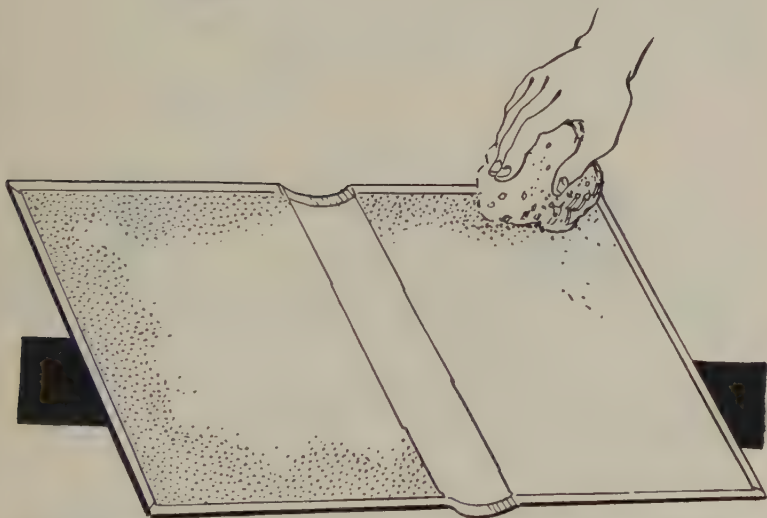

Fig. 212—DAMPENING END-LINING PAPERS ON COVER REMOVED FROM BOOK, PREPARATORY TO SCRAPING OLD PAPERS FROM COVERS
2. With a damp sponge moisten the white or colored end sheet (that still adheres to cover) all around the edges. (Fig. 212.)